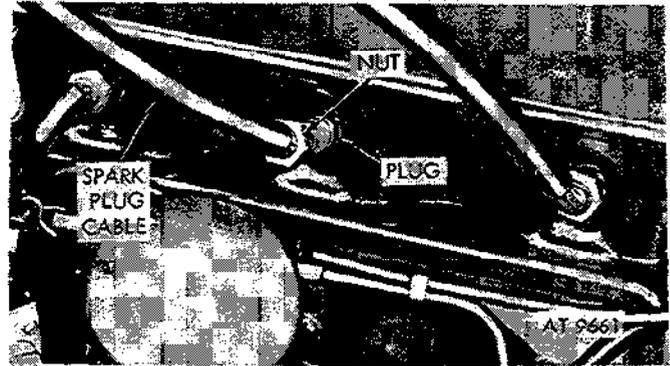
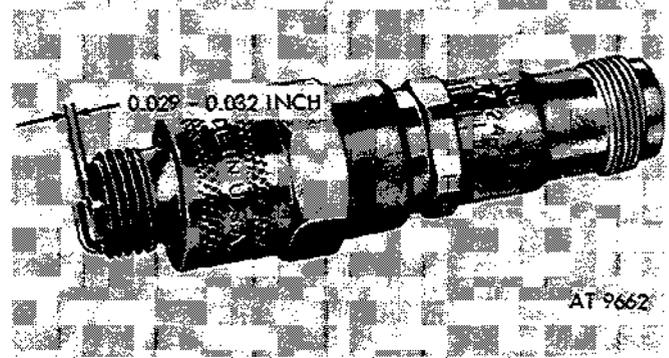

Figure 2-164. Remove spark plugs.
Figure 2-165. Adjust spark plug gap.
- (1) Disconnect terminal nuts securing spark plug cable to spark plugs (fig. 2-164).
- (2) Remove all dirt from cylinder head recess around spark plugs.
- (3) Use a deep socket wrench and remove spark plugs (fig. 2-165). Discard spark plug gaskets.
- (4) Clean spark plugs (fig. 2-165) on a spark plug cleaner and tester. Adjust gap to 0.027 to 0.030 in.
(5) Disconnect terminal nuts between spark plug cables and distributor. Remove cables.
b. *Installation.* Install spark plugs and spark plug cables by reversing removal operations. Refer to figures 2-164 and 2-165. Use new spark plug gaskets for installation. Torque spark plugs to 18-20 lb. ft.